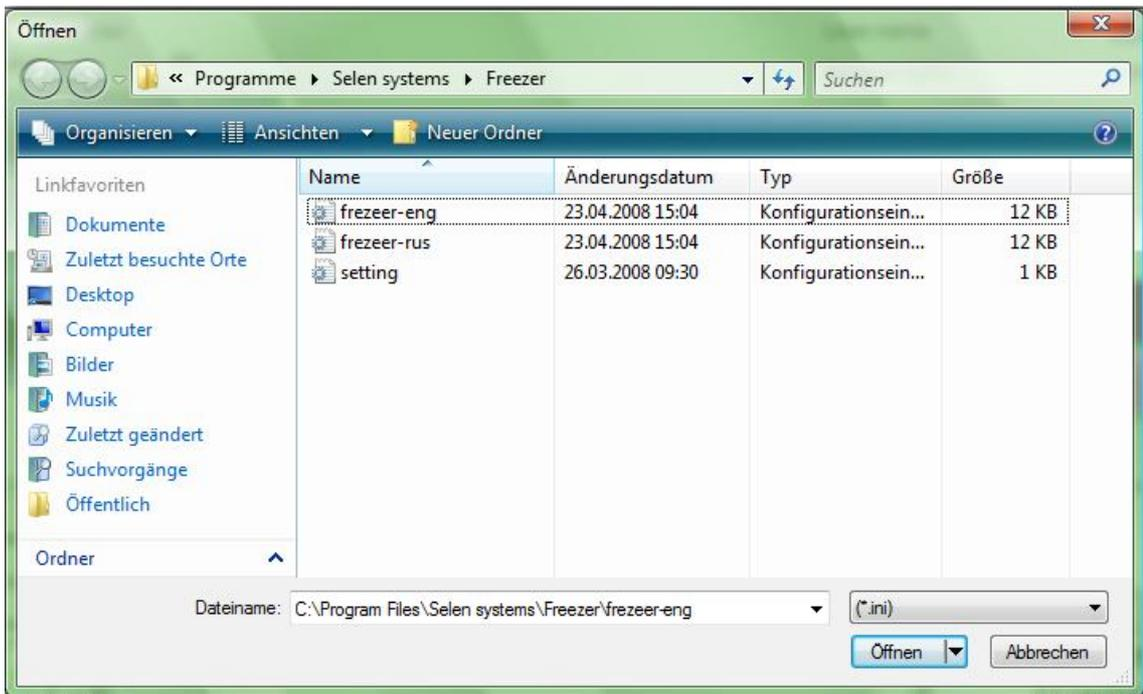

Fig.6. Dialog box «Open»
- In the **Language** text box the path to the text settings of the client is displayed. You may change the language of the interface. To do so this press **Change** button, located next to this text box. The dialog box **Open** will appear (Fig.6). You may choose the language file from listed *.ini files. At the moment you may choose between Russian (freezer-rus.ini) and English (freezer-eng.ini) languages. Choose desired file and press **Open** button. Press **Close** button to close **Settings** dialog box and close application. New language settings will be active after the next launch of the application.